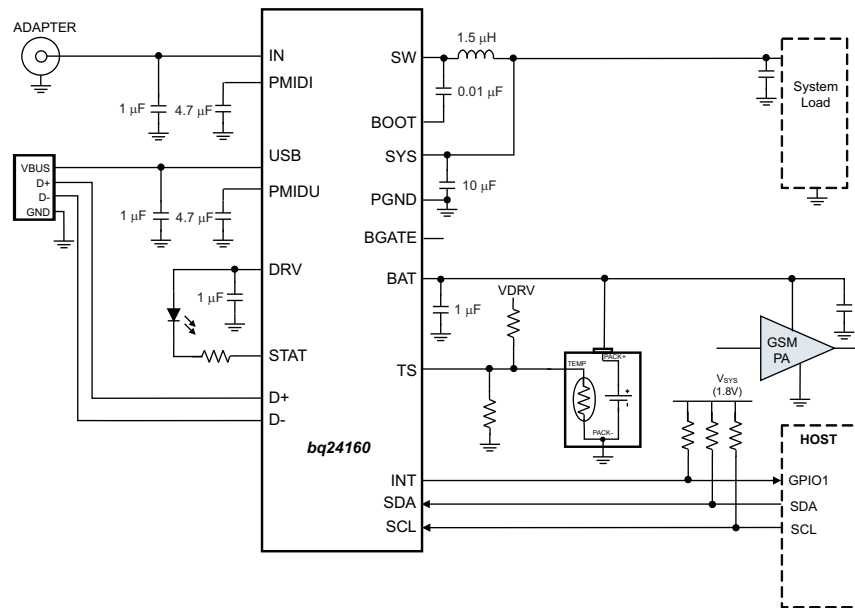
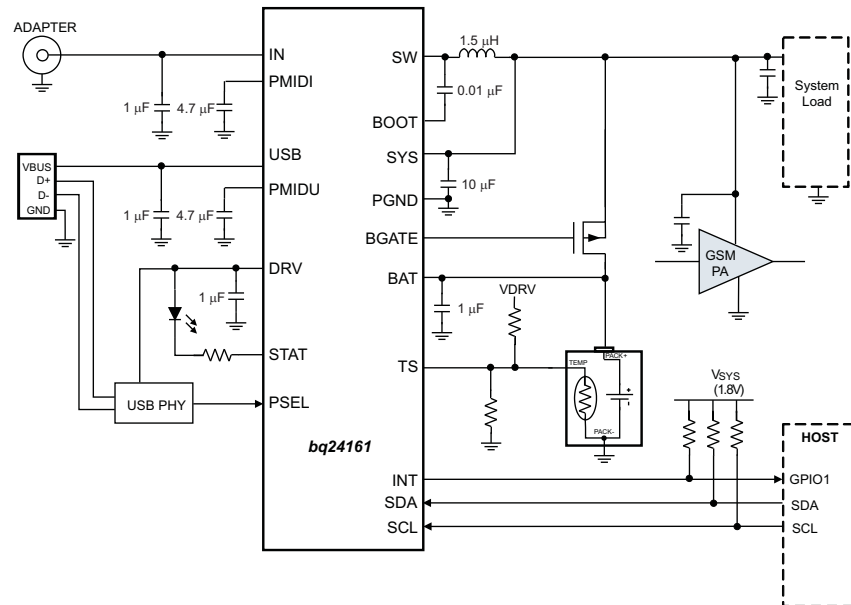

Figure 21. bq24160, Shown with no External Discharge FET, PA Connected to Battery
Figure 22. bq24161, Shown with External Discharge FET, PA Connected to System for GSM Call Support with a Deeply Discharged or No Battery
A typical application circuit using the bq24160 with a smartphone's GSM power amplifier (PA) powered directly from the battery is shown in Figure 21. A typical application circuit using the bq24161 with a smartphone's GSM PA powered from the SYS rail, to allow for calls even with a deeply discharged battery, is shown in Figure 22. Each circuit shows the minimum capacitance requirements for each pin and typical recommended inductance value of 1.5  $\mu$ H. The TS resistor divider for configuring the TS function for the battery's specific thermistor can be computed from equations Equation 1 and Equation 2. The resistor on STAT is sized per the LED current requirements. All other configuration settings for VINDPM, input current limit, charge current and charge voltage are made in EEPROM registers using I2C commands. Options for sizing the inductor outside the 1.5  $\mu$ H recommended value and additional SYS pin capacitance are explained in the next section.